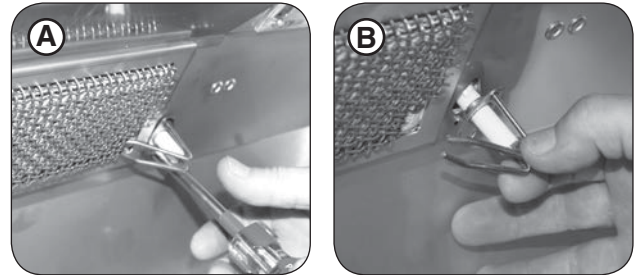

Fig. 30-2 Remove electrode
1. Remove the backburner electrode mounting screw (1/4" hex) (see Fig. 30-2, A) and loosen the electrode. Carefully pull the electrode assembly slightly from the grill wall to give enough clearance for the backburner to be removed (see Fig. 30-2, B).